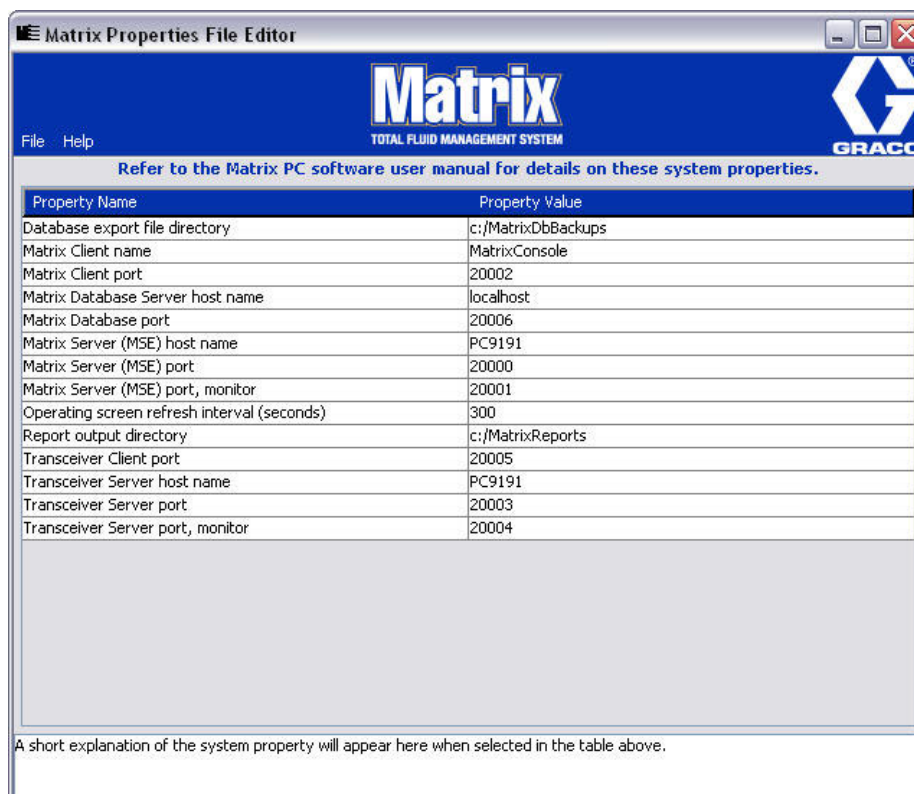

FIG. 12
- The editor appears as a two-column list of system properties, with property names on the left and their editable values on the right (FIG. 12). When you select a property by clicking on it, the bottom panel of the screen shows basic information about that property.